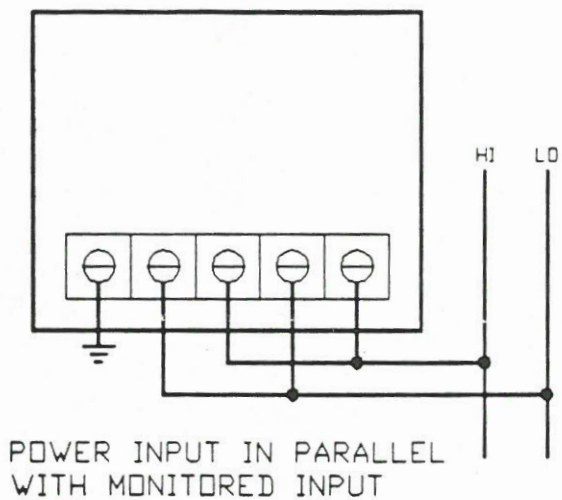

FIG. 3
- Power input in parallel with monitored input, as shown in Figure 3.